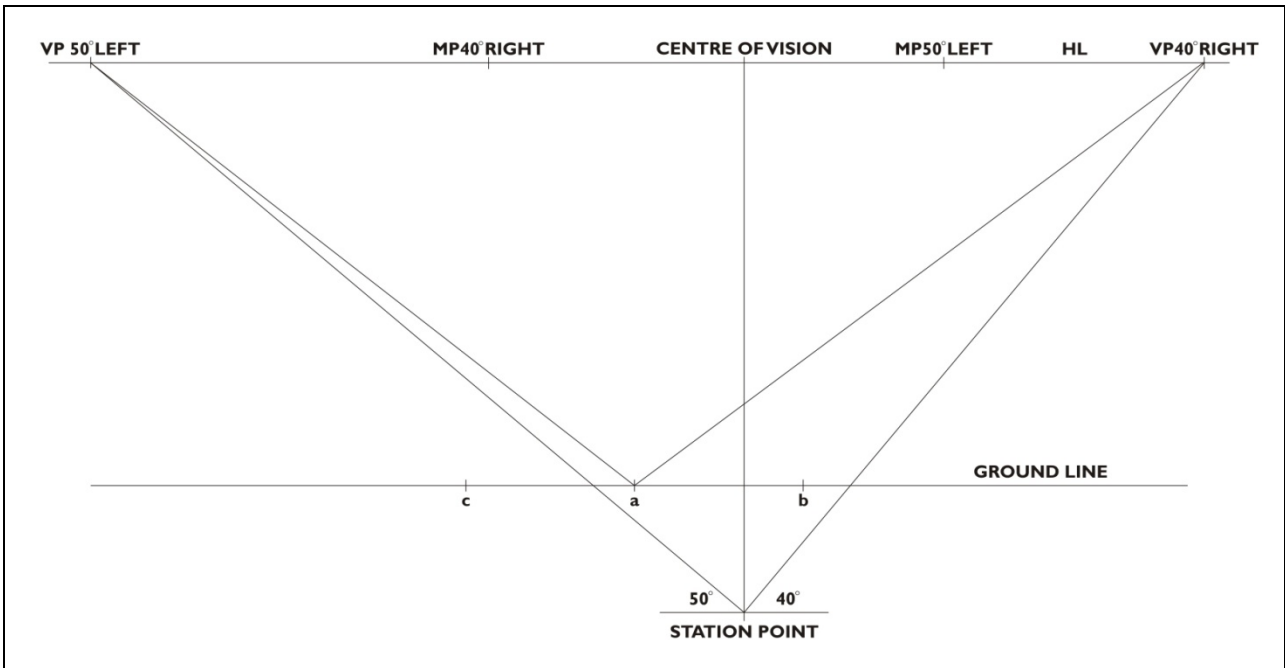

Figure 3.6 Two-point perspective vanishing lines
2. From point a draw a vanishing line to VP40° Right. Refer to Figure 3.6.